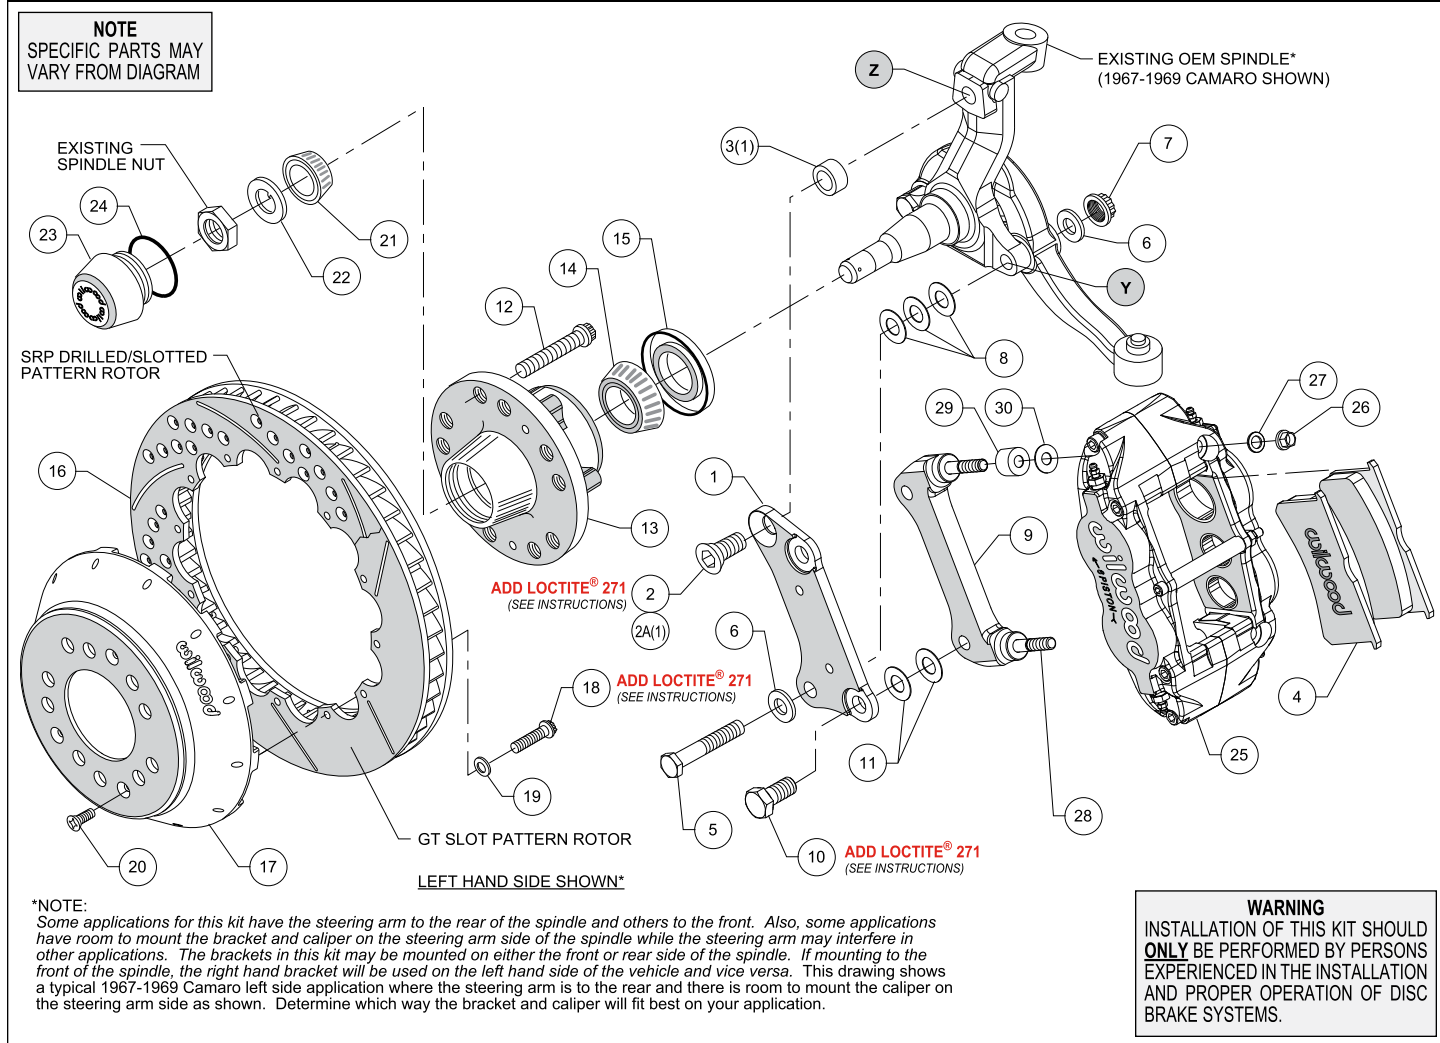
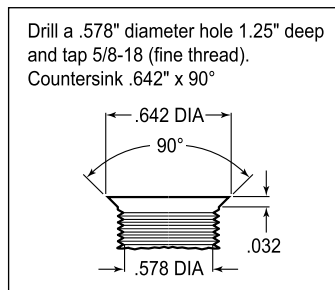
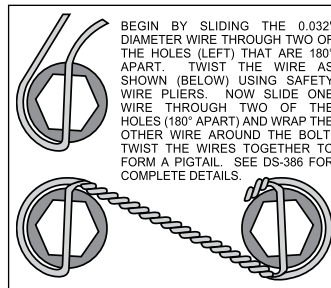

Figure 1. Typical Installation Configuration
Figure 3. Drill and Tap Detail
Figure 4. Safety Wire Diagram
NOTE: Numbers in parenthesis refer to the parts list and Figure 1 on the preceding pages.
•**NOTE:** Some applications for this kit have the steering arm to the rear of the spindle and others to the front. Also, some applications have room to mount the bracket and caliper on the steering arm side of the spindle while the steering arm may interfere in other applications. The brackets in this kit may be mounted on either the front or rear side of the spindle. If mounting to the front of the spindle, the right hand bracket will be used on the left hand side of the vehicle and vice versa. Figure 1 shows a typical 1967-1969 Camaro left side application where the steering arm is to the rear and there is room to mount the caliper on the steering arm side as shown. Determine which way the bracket and caliper will fit best on your application.
•**NOTE:** Some spindles in this year range may require the following modifications (reference Figure 1 and Figure 3): Top anchor pin hole (Z) must be drilled and tapped to the dimensions as outlined in Figure 3. The lower bolt hole (Y) in the spindle used to mount the new caliper bracket, and the mating steering arm hole, must be enlarged to .50" by drilling. It is recommended these modifications be performed by a qualified machinist.
•Install wheel studs (12) into the hub (13), Photo 1. Torque to 77 ft-lb. **NOTE:** There are two five lug patterns in the hub (5 x 4.50 and 5 x 4.75). Make sure of the correct hole pattern for the correct wheel application before installing studs into hub.
•Pack the large inner bearing cone (14) with high temperature disc brake bearing grease (available from your local auto parts store) and install into the backside of the hub (13).
•Install the grease seal (15) by pressing into the backside of the hub (13), Photo 2.
•Orient the rotor (16) and the hat (17) as shown in Figure 1 and Photo 3. Attach rotor to hat using bolts (18) and washers (19). Apply red *Loctite*® 271 to the bolt threads and torque to 155 **in-lb** using a criss-cross pattern. For an added measure of security, the bolts may be safety wired using standard 0.032 inch diameter stainless steel safety wire as shown in Figure 4. Please refer to Wilwood's data sheet DS-386 (available at www.wilwood.com/Pdf/DataSheets/ds386.pdf) for complete safety wire installation instructions.
•**Disc Brake Spindle Application Only:** Follow the instructions below, but instead use bolt (2A), and spacer (3) in the upper bolt hole location, Figure 1.
•Orient the flat bracket (1) as shown in Figure 1 and Photo 4, and install using bottom bolt (5), washers (6), and nut (7), Figure 1. Initially place three .032" thick shims (8) between the bracket and spindle. Install the upper bolt (2 or 2A). Temporarily tighten bolts. **NOTE:** *The bracket must fit squarely against the mounting surfaces on the spindle.* Inspect for interference from casting irregularities, machining ridges, burrs, etc. Temporarily install the new hub, hat and rotor assembly. Check that the bracket is aligned parallel to the rotor, Photo 5. If not, adjust by adding or subtracting shims (8) on the lower bolt between the bracket and spindle, Figure 1. Once the bracket alignment is correct, remove the upper bolt (2 or 2A), apply red *Loctite*[®] 271 to the bolt threads, and torque to 120 ft-lb. Torque the lower lock nut to 65 ft-lb.
•The radial mount caliper bracket (9) should initially be installed with clean, dry threads on the mounting bolts. Orient the bracket as shown in Figure 1 and Photo 6, and install using bolts (10). Initially place two .029 thick shims (11) on each bolt between the two brackets, Figure 1. Temporarily tighten the mounting bolts. Later, after the caliper alignment has been checked, the mount bolts will be secured using red *Loctite*[®] 271.
•Pack the small outer bearing cone (21) with high temperature disc brake bearing grease and install into hub (13). Final install the hub assembly onto the spindle. Secure using spindle washer (22) and OEM spindle nut, Photo 7. Adjust bearings per OEM specifications. Install saved OEM nut lock (if any) and a new cotter pin (not included).
•Screw dust cap (23) into hub (13). Friction created by the o-ring (24) on the dust cap keeps it from unscrewing. **NOTE:** *The O.D. of the existing OEM spindle washer may be larger than the I.D. of the dust cap not allowing it to seat against the hub face. Therefore, use the spindle washer (22) supplied with the kit instead of the OEM washer.*
•Final install the rotor (16 and 17) assembly onto the hub (13), taking care to align the small countersunk holes in the hat with the small threaded holes in the hub. **NOTE:** *The hat must fit flush against the hub face or excessive rotor run out may result.* Install three flat head screws (20) through the small holes in the hat (17), Photo 8, and torque to 85 in-lb.
•**NOTE:** *This kit contains distinct right and left hand calipers that must be mounted in a specific direction, as described below.* Initially place spacer (29) and one .035" thick shim (30) on each stud (28) between the caliper and the bracket, as shown in Figure 1 and Photo 9. Mount the caliper (25) onto the bracket (9) using lock nuts (26) and washers (27), Figure 1. Ensure that the caliper is mounted so the largest pistons are at the rotor exit end of the caliper, in relation to the direction of rotor rotation. Temporarily tighten the lock nuts. The rotor should be centered in the caliper, Photo 10. If not, adjust by adding or subtracting shims (11) between the flat bracket (1) and the caliper bracket (9). Always use the same amount of shims on each of the two mounting bolts. Once the caliper alignment is correct, remove the bracket mounting bolts one at a time, apply red *Loctite*[®] 271 to the threads, and torque to 77 ft-lb.